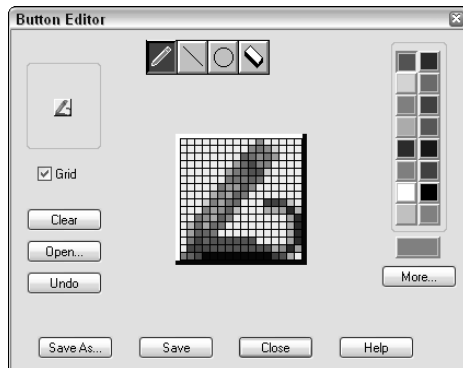

**Figure 29-10:** You can create a new button in the Button Editor.
16. With the `pline_tenth` button selected, in the `Button Image` pane, click the `PEDIT` icon. (It looks similar to the icon in Figure 29-10.) Then choose `Edit` to open the `Button Editor`.
17. You want to change the button so that it looks as if a zero-width polyline is being changed to a wider polyline, because that's what the macro does. Click the red color. Choose the Pencil tool (by default, it is already chosen). Click the Grid check box to help you work. Click (or drag) the point of the Pencil tool in each box, using Figure 29-10 as a guide. (Figure 29-10 shows the button in black and white.) When you're done, click `Save`.